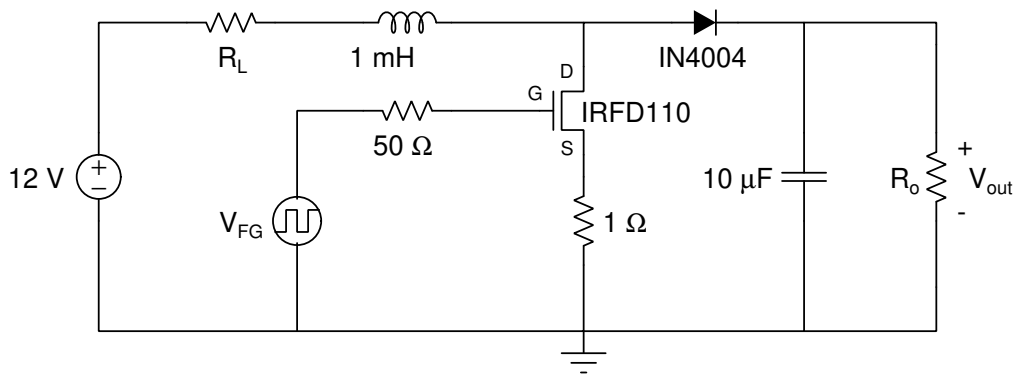

Figure 3: Boost converter circuit for NGSpice simulation and for implementation.
- (h) The period of the square wave (T) used to drive switch S_1 is $t_1 + t_2$, the frequency (f) is $1/T$, and the duty cycle (δ) is t_1/T . What are the values of T , f , and δ ?
- (a) Simulate the boost converter circuit shown in **Figure 3** at a temperature of 27°C using ideal resistors, inductors, and capacitors. Include the ESR of the inductor as an ideal resistance in series with the inductor. Also include a $1\ \Omega$ resistor between the S terminal of the transistor and ground to allow for the simulation of the current through the transistor.
1. Build and test the boost converter circuit shown in Figure 3 using the component values and WG settings determined in Pre-Lab step 2j. Check the signal on the scope to make sure it is correct before applying it to the circuit.